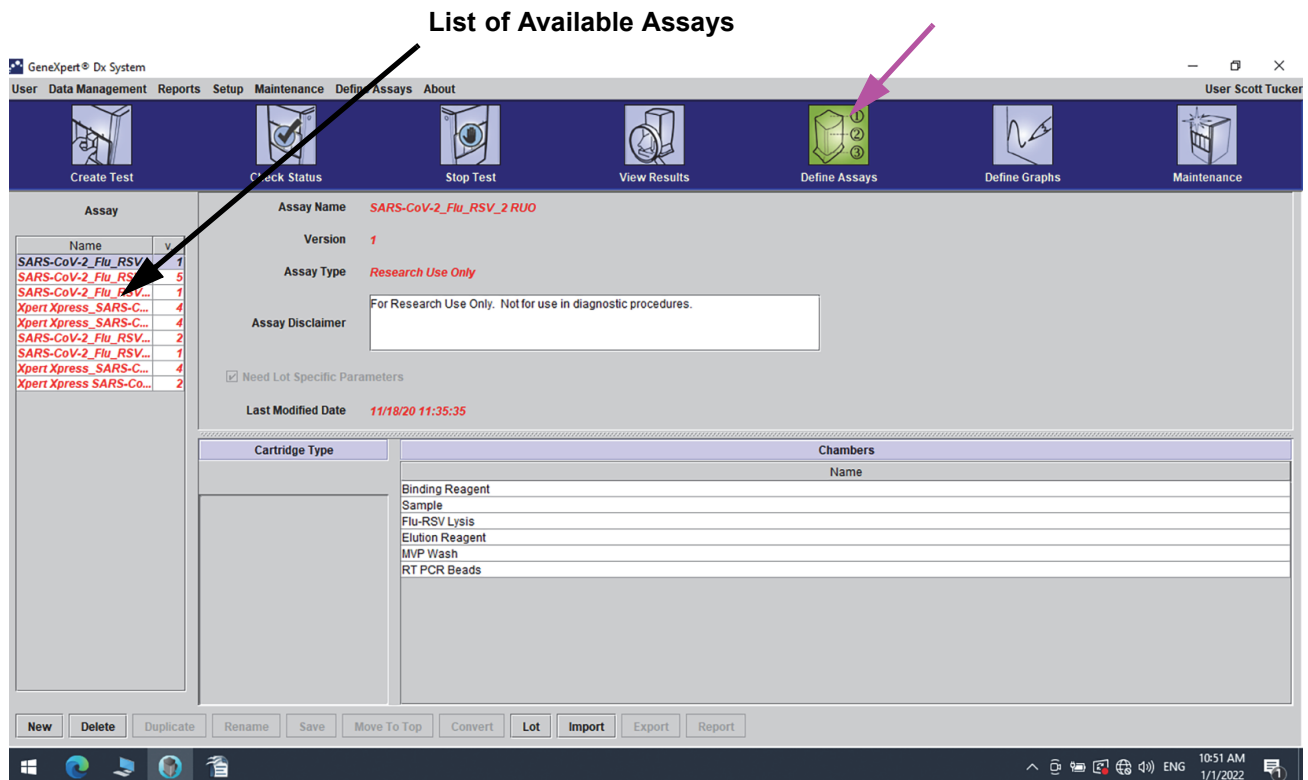

Figure 5-15. GeneXpert Dx System—Define Assays Window
1. On the GeneXpert Dx System window, click **Define Assays**. The Define Assays window appears (see Figure 5-15).